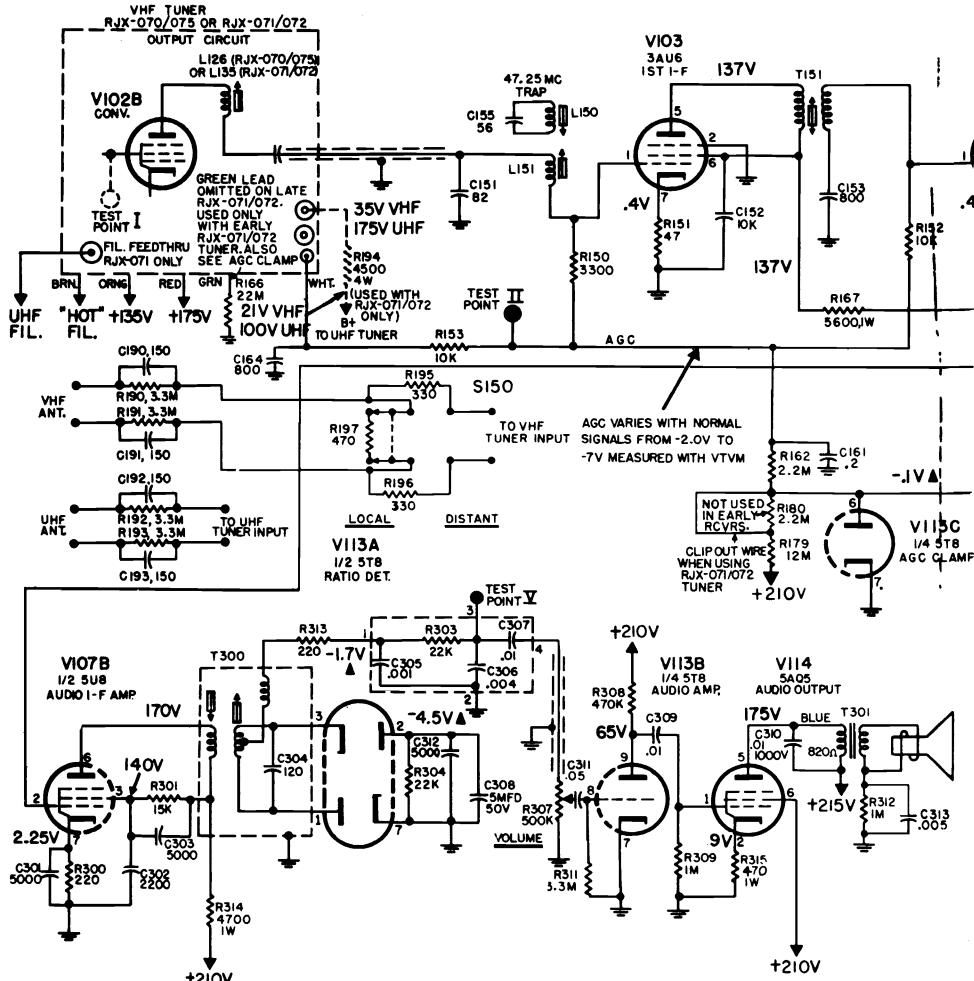

FIGURE 6. DETECTOR NETWORK
2. Connect detector network (Figure 6) to Test Point IV and set contrast to maximum. Connect oscilloscope to network.